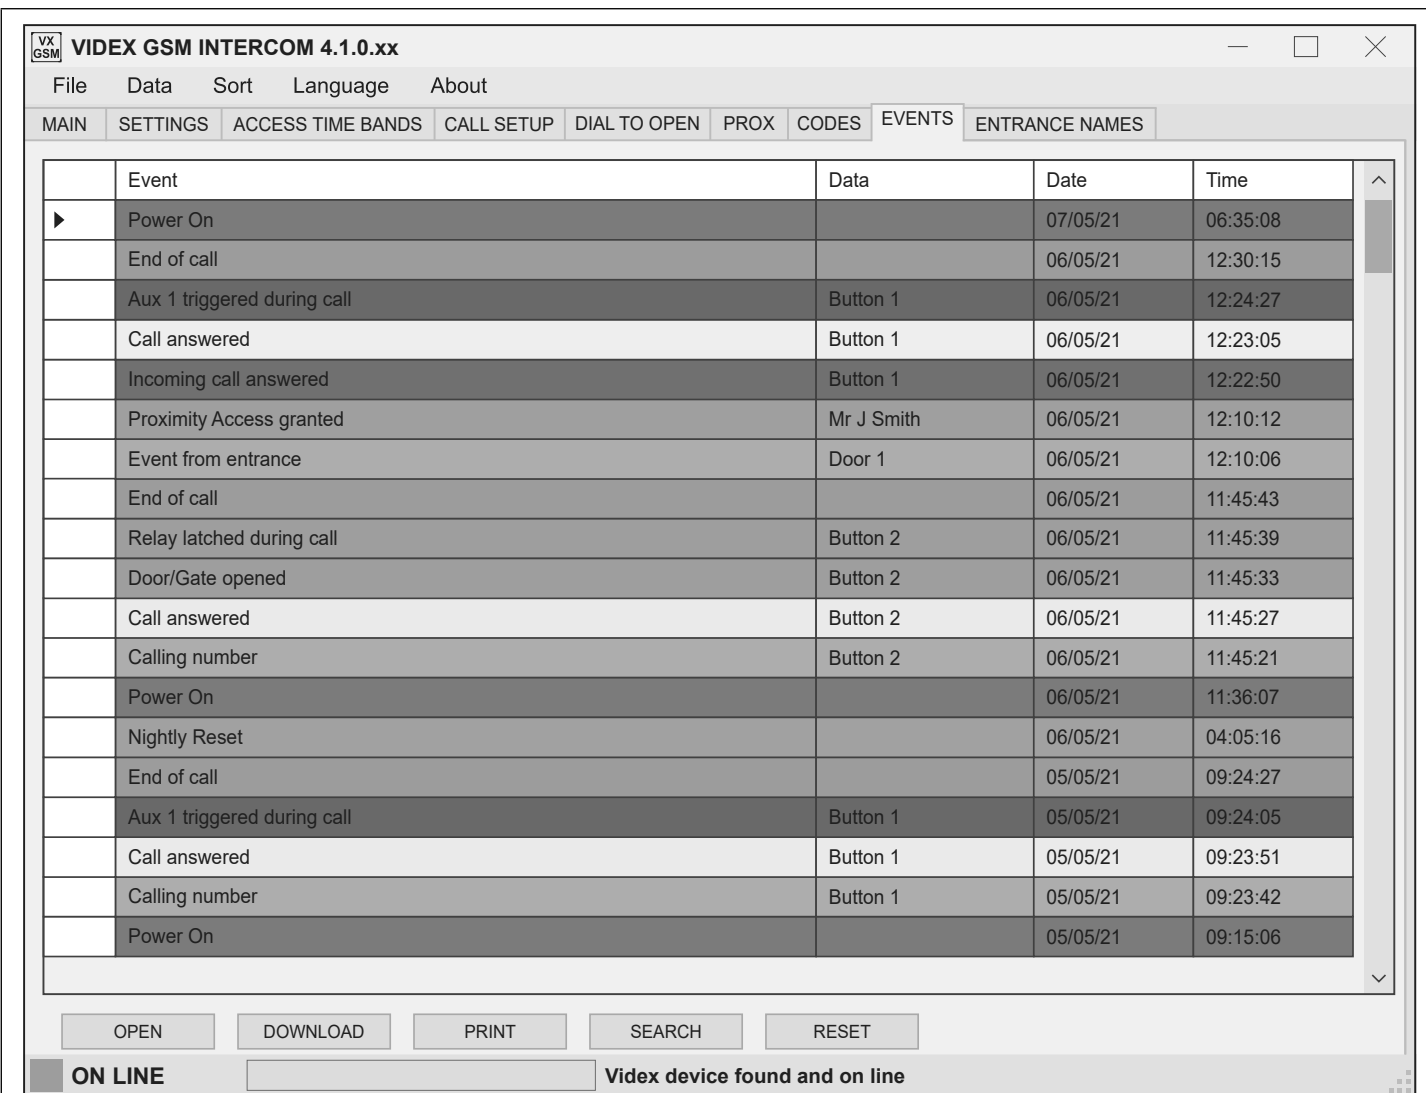

Fig. 73
The recently downloaded events from the GSM module will be displayed on the main **events window**, as shown in **Fig.73**.
- At the bottom of the events screen click on the 'PRINT' button (see Fig.73).
- Click on the **'SEARCH'** button at the bottom of the events screen (see **Fig.73**).
The events shown on the events screen (after a recent events search) can be reset back to display all the events that were originally downloaded from the GSM's event logger by clicking on the **'RESET'** button at the bottom of the screen (see **Fig.73**). This will only reset the events shown on the screen, it won't clear the events actually stored in the GSM intercom (refer to notes on downloading an event log on page 38).